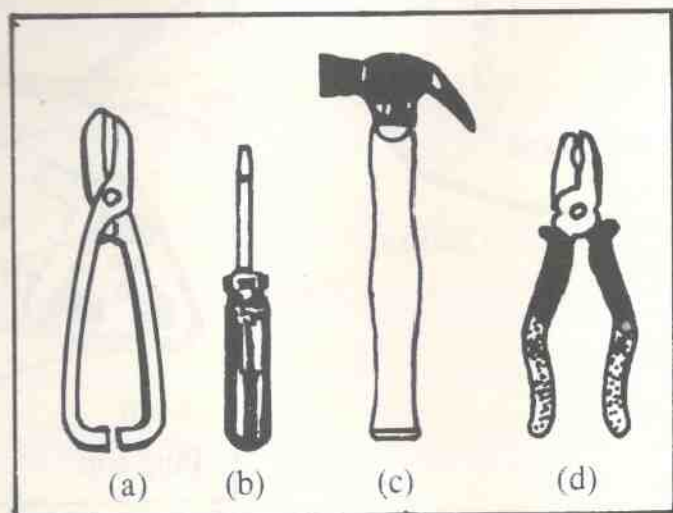

Fig. 7
1. The following tools may be necessary for the unpacking of the equipment (Fig: 7):